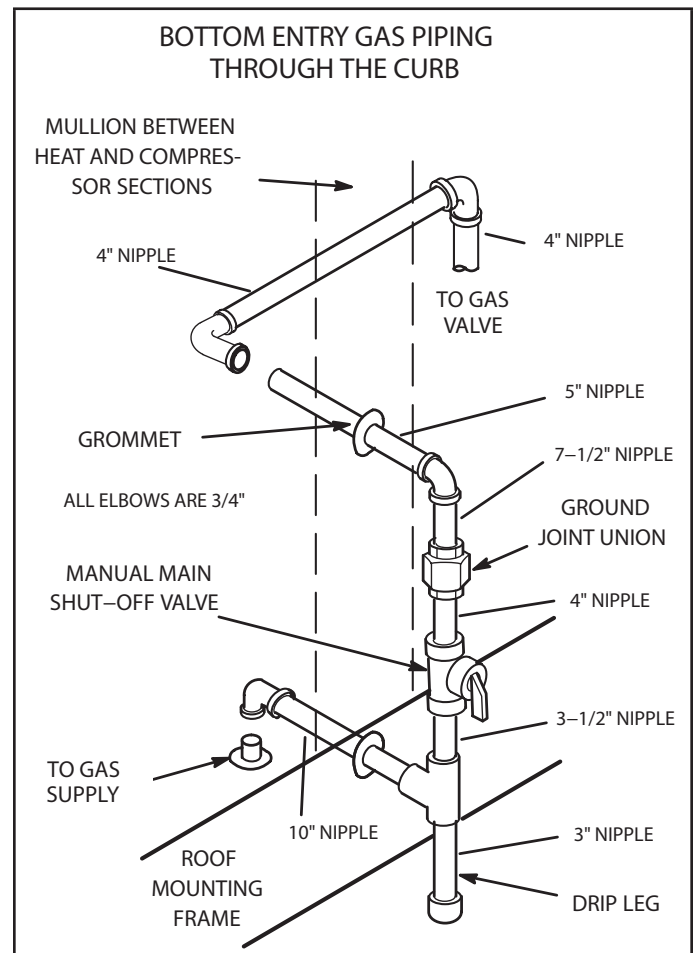
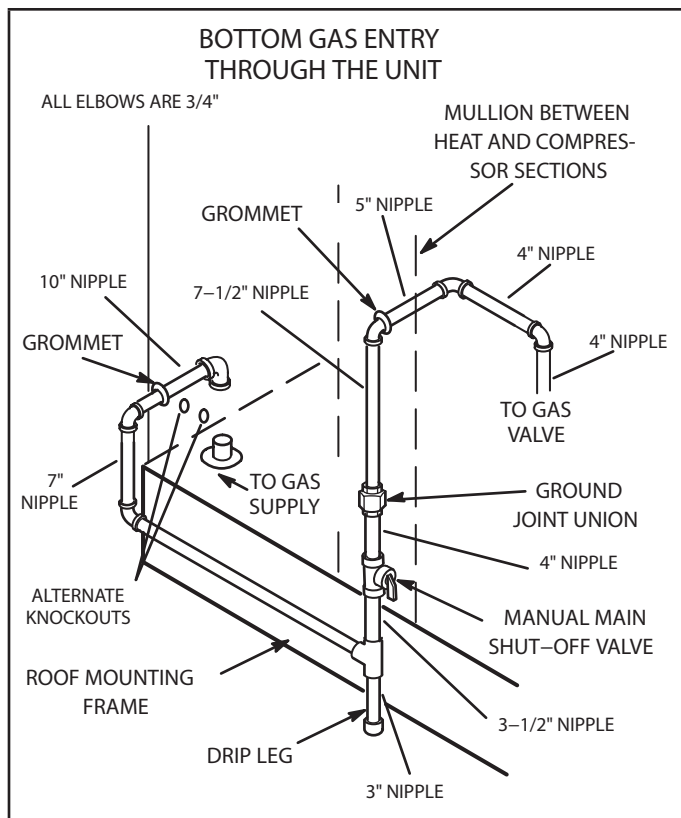

FIGURE 1
FIGURE 2
- 2 - Complete gas piping as shown FIGURE 1 when routing piping through the curb and FIGURE 2 when routing piping through the unit.